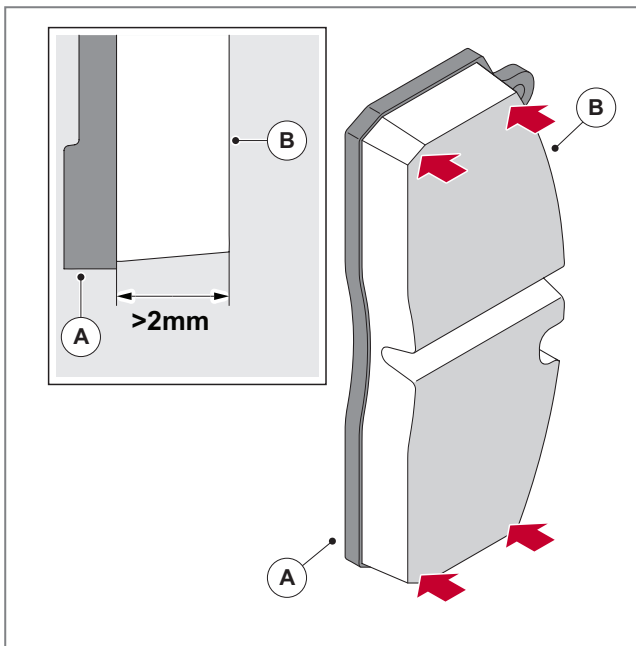

Fig. 16 - Measuring brake pad wear
- On both brake pads, measure the distance from the back plate (A) to the wear surface (B) of the brake pad in four places, see ► Fig. 16. The minimum permitted pad thickness (friction material) is 2 mm.